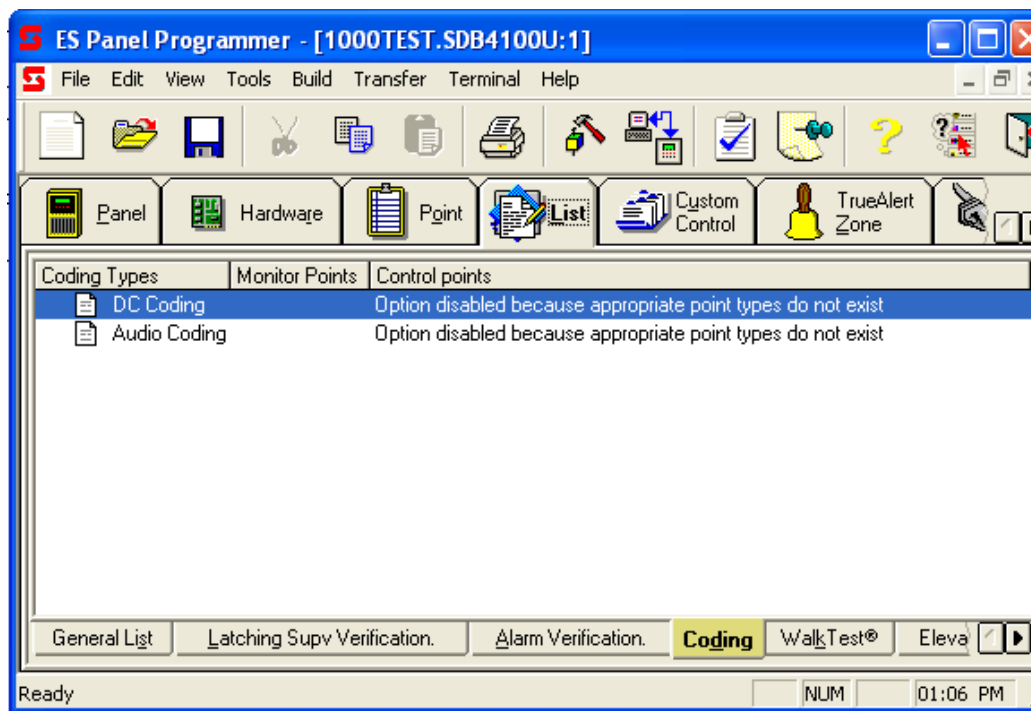

Figure 9-12. Coding Tab
2. Click on the **Coding** tab at the bottom of the List Window. A screen similar to the one shown in Figure 9-12 appears.